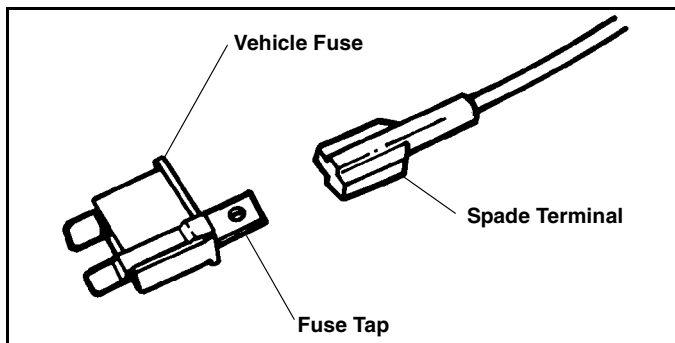

Figure 1-10
16. Attach the appropriate fuse tap (ATC/ATO or Mini Fuse) to that "Dead/OFF" side of the fuse. (See Figure 1-10).